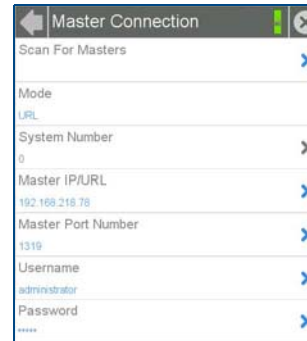

FIG. 8 MASTER CONNECTION PAGE
- In the *Connection & Networks* page, select **Master Connection** to open the *Master Connection* page (FIG. 8).